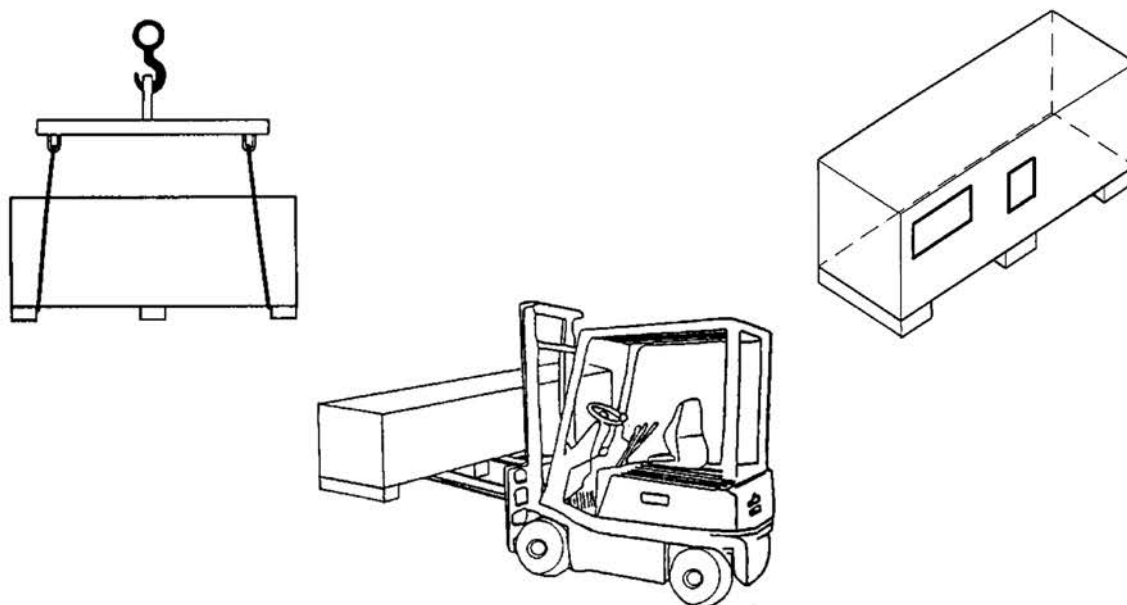

fig.4
The lift is usually delivered as illustrated in **Fig. 4**.
- The lifting operations should be done as shown in **Fig. 4**;
- lift with care using suitable lifting means in perfect working condition. Use the special lifting points as indicated in **Fig. 4**;